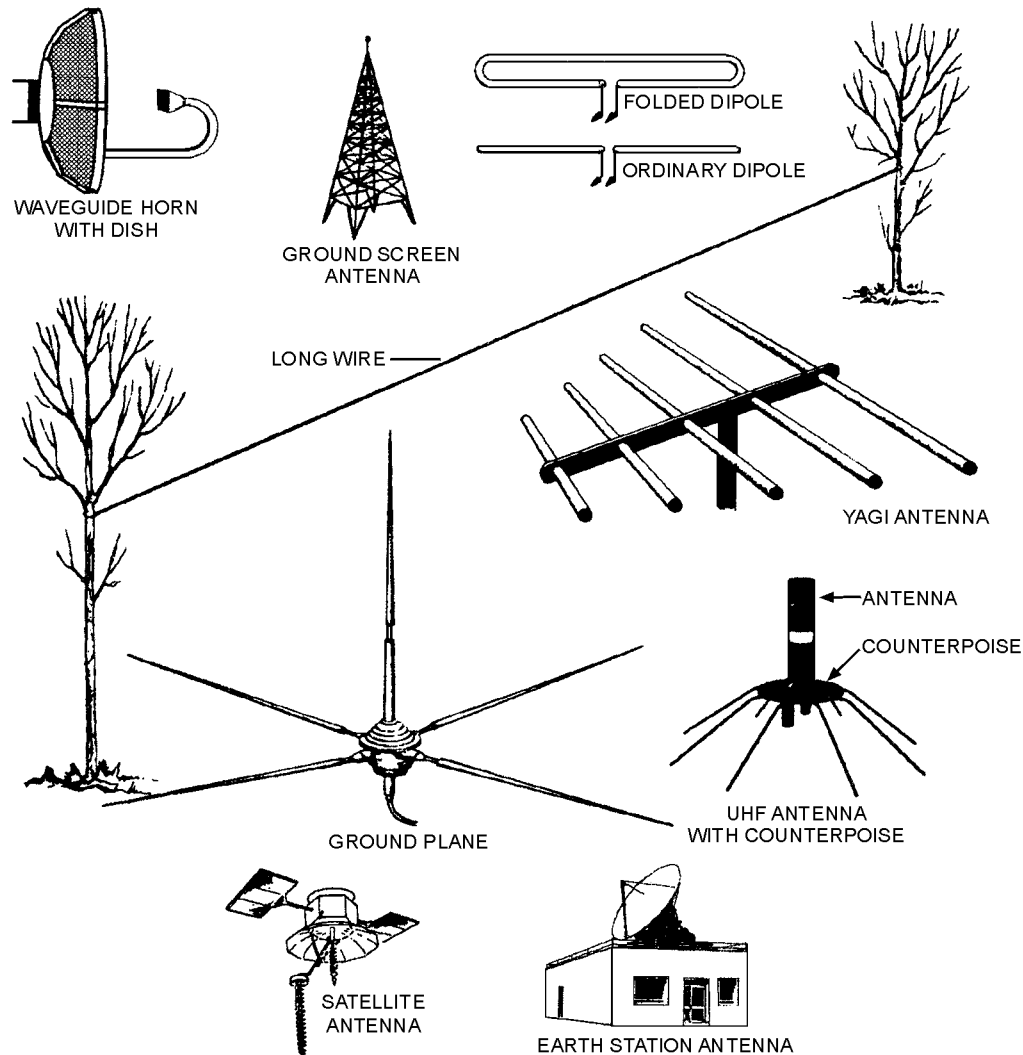

Figure 4-3.—Typical antennas.
The factors that determine the type, size, and shape of the antenna are (1) the frequency of operation of the transmitter, (2) the amount of power to be radiated, and (3) the general direction of the receiving set. Typical antennas are shown in figure 4-3.